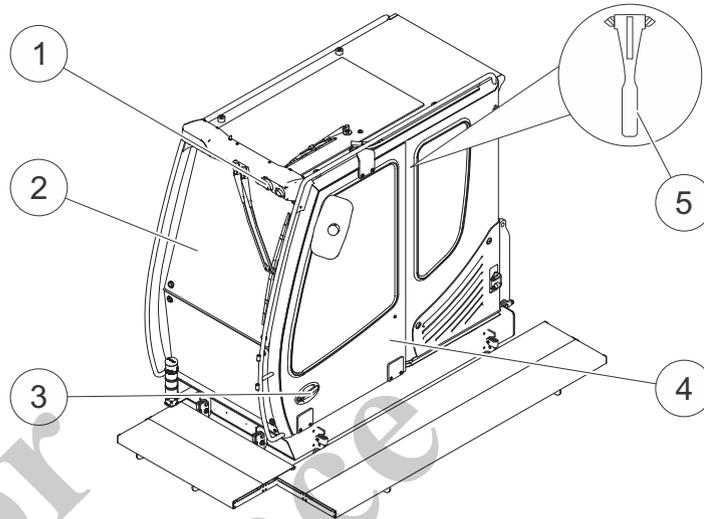

Fig. 48 Cab components
In an emergency, you can exit via the side windows or windshield. To do this, use the emergency hammer (6) in to break the glass Fig. 48.